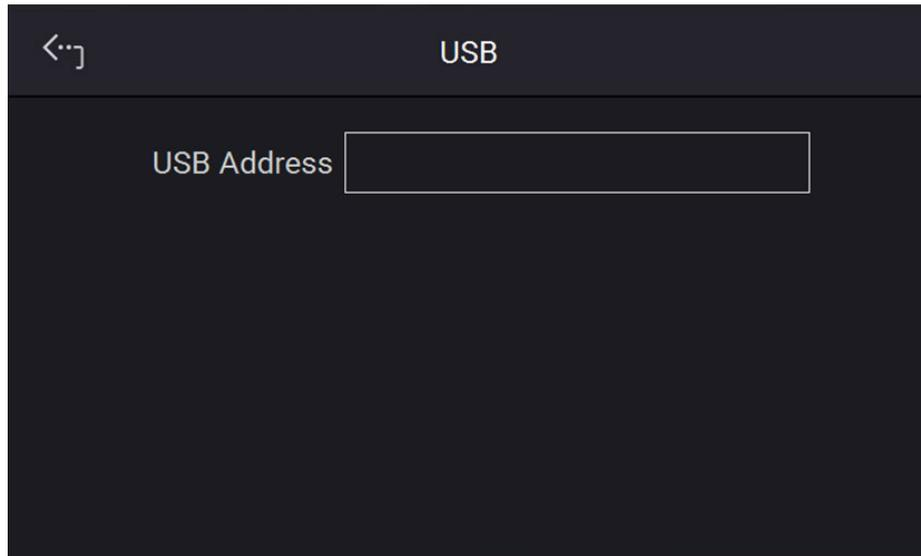

Figure 3-38
1. On the “Interface” page, select USB to enter into the USB Address screen as Figure 3-38.